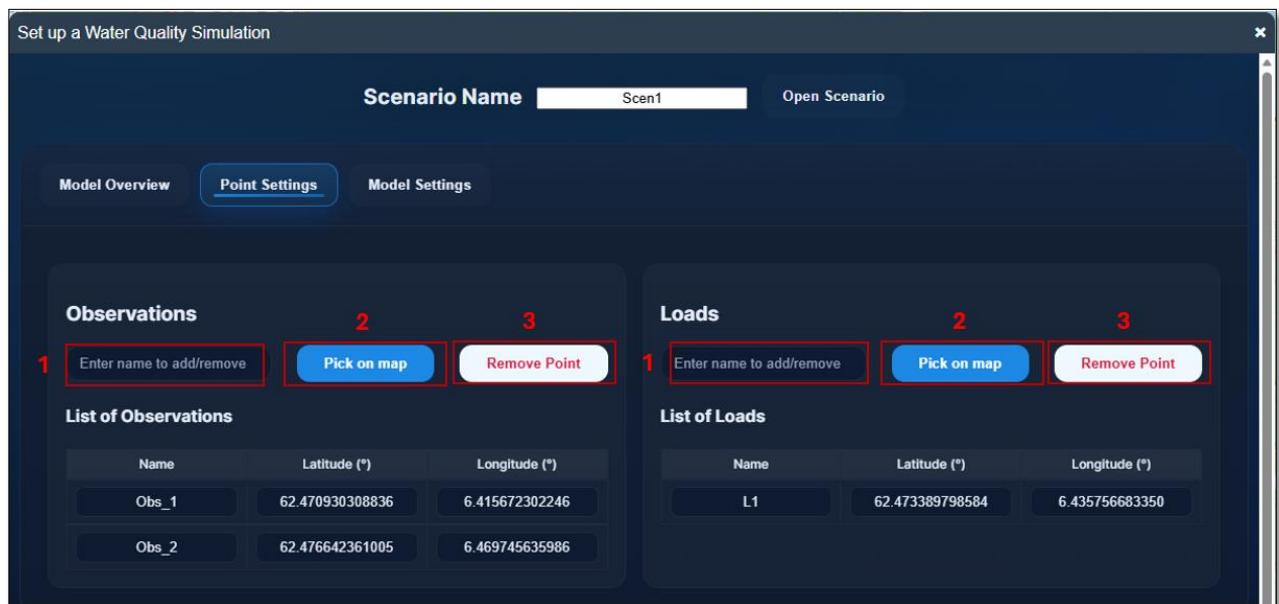
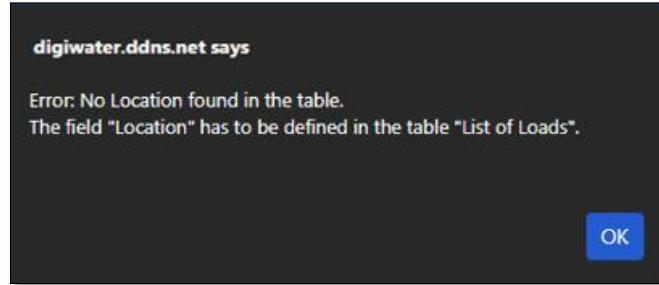

Figure 3.4. Define observations and loads for a WAQ scenario
Figure 3.7. Undefined load for the WAQ model
- *Step 2:* Click the “**Pick on map**” button, then this window disappears, allowing the user to select an observation (or a load) on the map. If the user does not specify the name, a default name is used (**Figure 3.4**).
has to make sure that the name of the field “**Location**” in the table “**Time-Series Preparation**” must be included in the table “**List of Loads**” in the tab “**Point Settings**” (**Figure 3.4**). Otherwise, the user will get a window showing the wrong data format for the selected WAQ model (**Figure 3.7**).